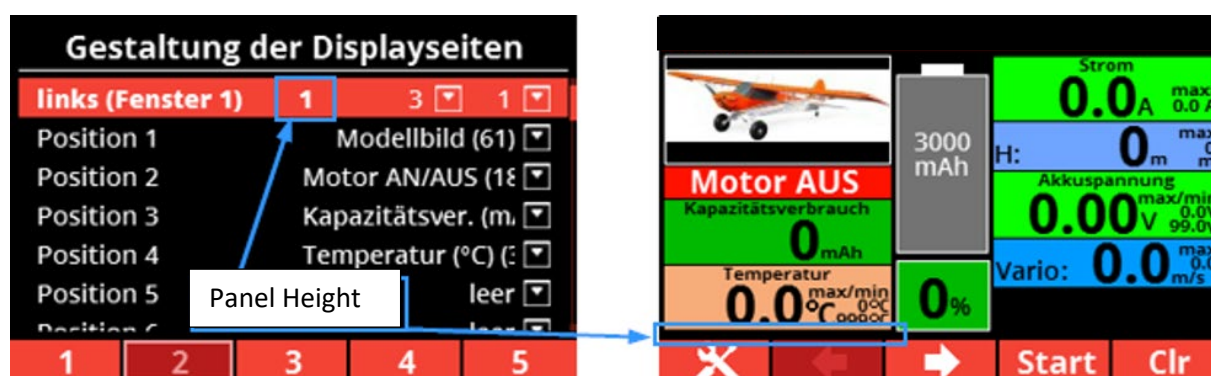

Figure 67: Example display page with default values of border and tile spacing.
The *model image (61)* from Figure 67 left image: